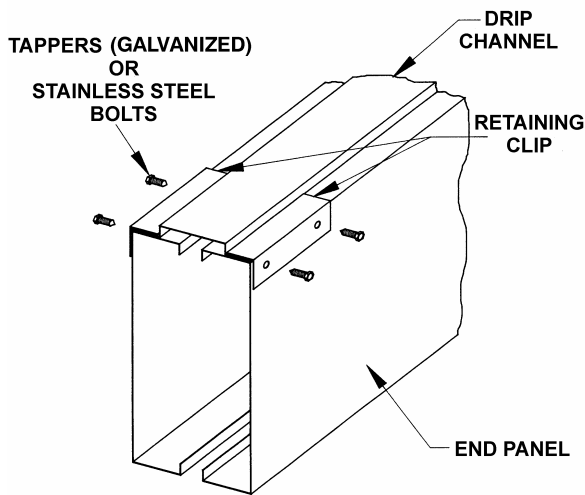

Figure 5 - Drip Channel Installation
8. Place the drip channel over the adjoining pan section flanges. Secure by installing 8 mm self-tapping screws through the retaining clips into the end panels. For stainless steel construction, secure by installing 6 mm stainless steel bolts through the retaining clips into brass rivnuts secured in the end panel. (See Figure 5.)